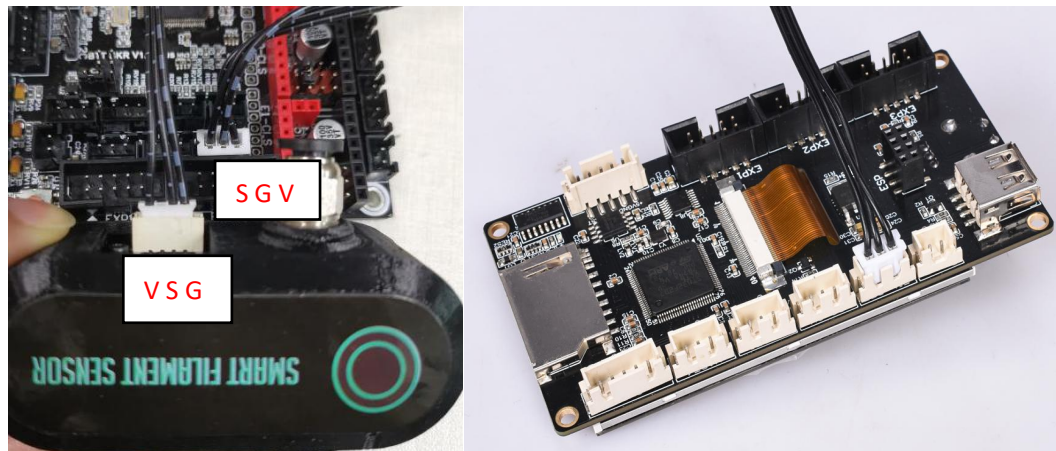

figure 13
1) Take SKR V1.3 、 TFT35_V3.0 (figure 13) as an example